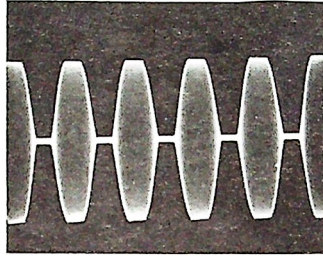

Figure 3-4. Squared Tone Modulation (95 Percent)
- 3) Place the LIMITER switch in the OFF position; then turn the OUTPUT SET control clockwise as far as necessary to produce the maximum desired modulation. If the r-f envelope is observed on an oscilloscope, its appearance should be similar to figure 3-4.